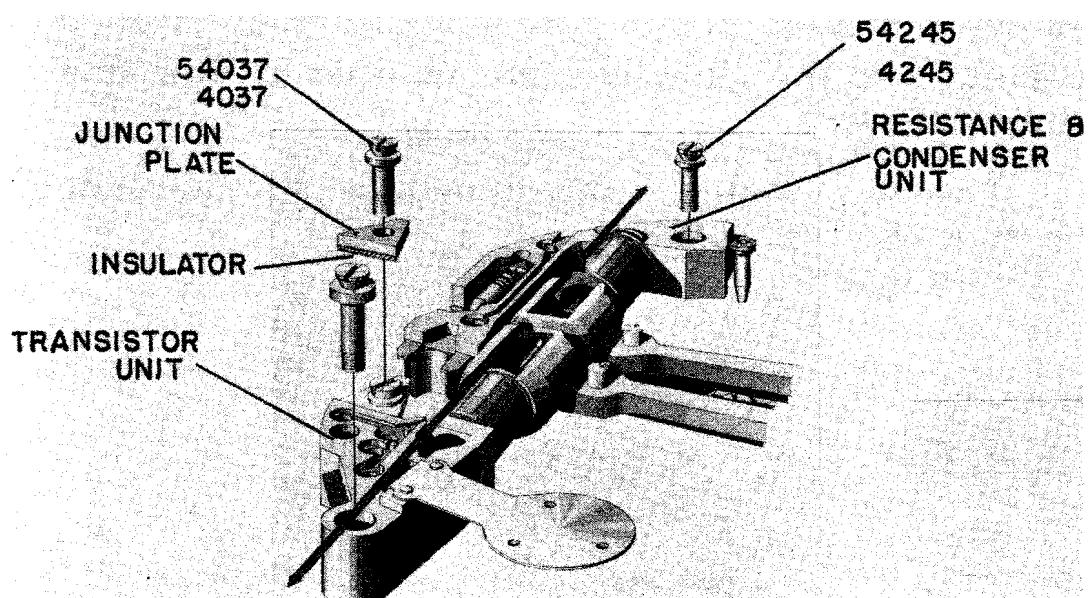
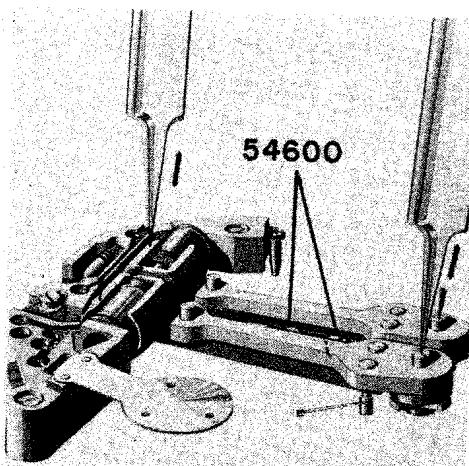
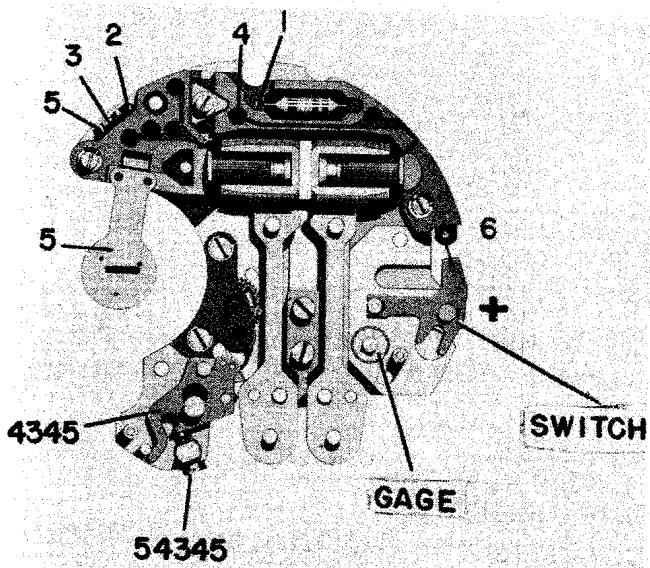

FIGURE 13
FIGURE 16
FIGURE 17
After removing the screws (54037, 54245), remove the junction plate and its insulator underneath, as shown in Figure 13.
Now fit the junction plate insulator and the triangular junction plate in place by means of its screw (54037). (See Figure 13.) Check the resonator to make sure it is free, as shown in Figure 16. To do so, place the non-magnetic tweezer lightly on the cups of the resonator and "feel" whether they are free. Or place the point of a tweezer on the pin of the lower end of the fork-resonator as shown. Also, with the point of tweezer at the side of the pin at the lower end of the resonator, flip the point of the tweezer aside. This will set the resonator into sonic action and will enable you to observe its freedom. On no account must its tines come into contact with any part of this movement. Also be sure that the contact point (6) in Figure 17 is not fouled with the contact table of the switch.
Notice that in Figure 17, there is a reference to a "gage". This is a stud-shaped piece that is supplied with every movement and rests in a reserve well or counterbore. This gage has no functional purpose in this watch except as a stand-in for the click wheel for
Remove the battery from the movement. To read the power consumption in microamperes (μA), connect the set-up so the ammeter's negative (-) lead (set to read microamps) is connected to the negative (-) lead of the energy source (1.35 volts). The ammeter's positive (+) lead should be connected to *Point 5*, shown in Figure 17. Then, connect the lead from the positive (+) terminal of the energy source to the movement plate — *Point 6* in Figure 17.
3. Resistance Check Between Points 1 and 4 in Figure 17.
With the multimeter switched to read in the $20K \Omega$ per volt range, contact the meter's black (-) lead to *Point 1*, Figure 17, and the red (+) lead to *Point 4*, Figure 17. If the meter's needle remains stationary at ∞ , the insulation is good. If the needle moves even slightly, there is a partial or total short circuit between these points, and this unit must be changed.
With the stem pulled out all the way, the contact between *Point 6*, Figure 17, and the break switch (movement plate) should be open. To test it, touch the red (+) lead of the meter (ohms) to the plate, and touch the black (-) lead to *Point 5*. If all is well, the needle should remain at ∞ .
Place one lead of the ohmmeter at *Point 6*, Figure 17, and the other lead on the movement plate with the stem pushed in all the way. The needle should jump to the end of the scale if the contacts are good. If not, clean or adjust the contact blades of the breakswitch.
With the meter reading $20K \Omega$ or more per volt, place one prod of the meter at *Point 4*, Figure 17, and the other at *Point 6*. The result should be a reading of approximately $7K \Omega$. If it is below $5K \Omega$, or more than $10K \Omega$, the Resistance and Condenser Unit 4245 should be changed.
Remove the battery. With the meter set to read microamperes, place the red (+) prod at *Point 6* and the black (-) prod at *Point 5*, Figure 17. Then, hold the tweezer or your fingernail at the pin on the lower end of the right resonator tine. Flip this to set the resonator vibrating. The meter's needle should move up to a reading of approximately 0.5 on the 0 to $20 \mu A$ scale. Excessive movement, or none at all, indicates a need to change the transistor unit 4240.
Another method is to place the power source (+) prods at *Point 6*, Figure 17 (the plate), and the (-) prod at *Point 5*. The movement should start to resonate and the click wheel and intermediate wheel should begin to turn.
2. When the hands are in order, check the battery (1). If it is acceptable, check (2).
3. If the reading is less than $4 \mu A$ in check (2), remove the module, check contacts, switch and junction plate and its insulator 4037 in Figure 17. Replace the faulty parts.